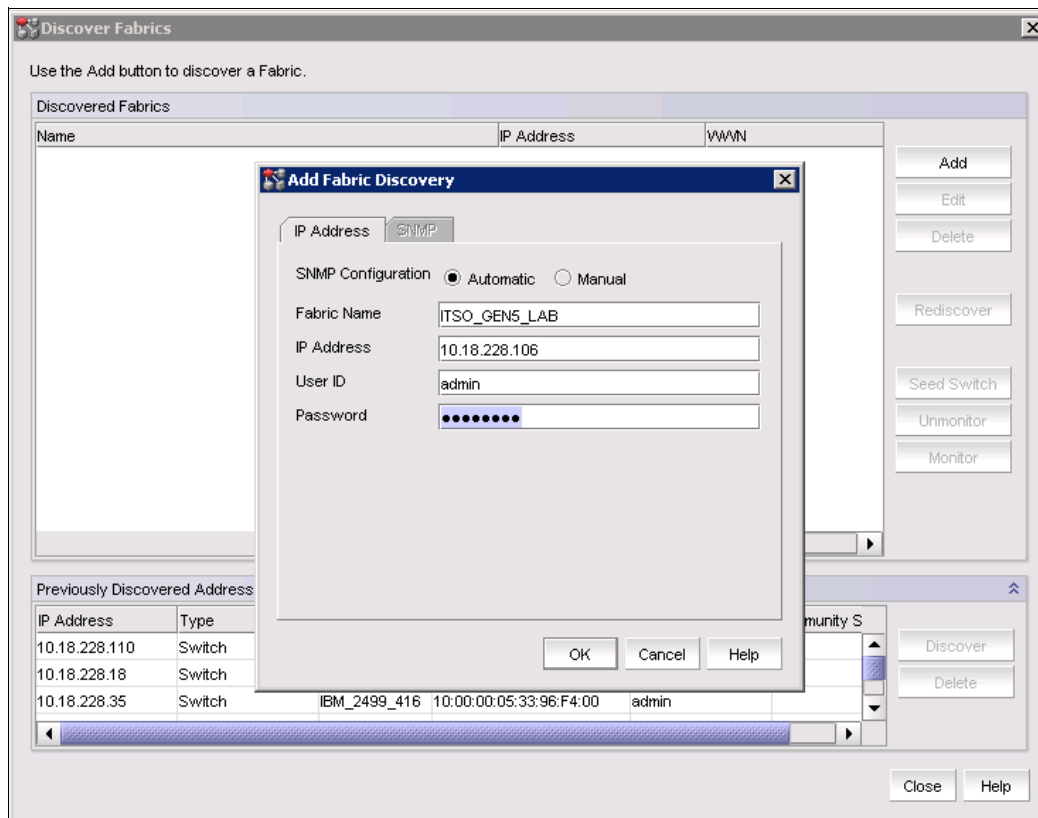

Figure 3-36 Discovery window
1. Click **Discover** → **Fabric**. Figure 3-36 shows the discovery procedure.